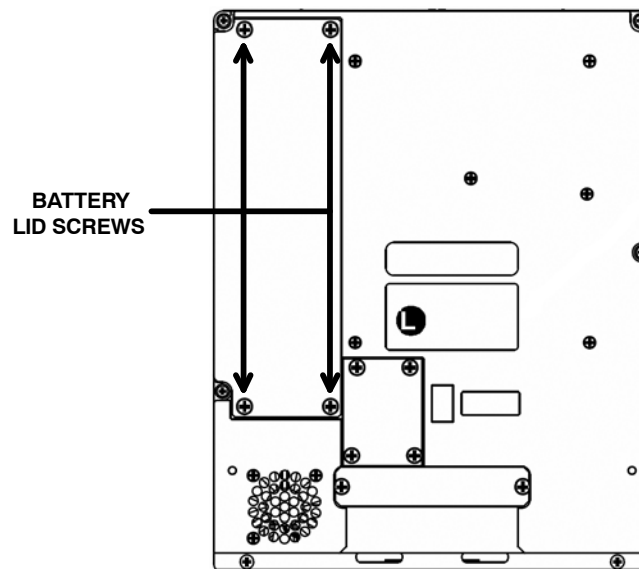

Figure 36. DU Battery Access
- (2) Inspect the battery pack for any signs of swelling. If the battery pack appears to be swollen continue with this procedure. If the battery appears normal go to Step (11).
- (3) Remove and replace battery back from housing cavity by disconnecting the cable at the white connector. Refer to Figure 36. The DU battery pack, P/N 63516SOCNN01A100-18-101 (L3AR P/N 011-E4860-00) is a field-serviceable item.